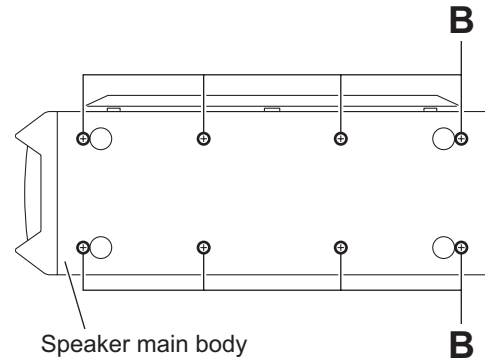

Fig.2
- (2) From the bottom side of the speaker main body, remove the eight screws **B** attaching amplifier assembly. (See Fig.2)